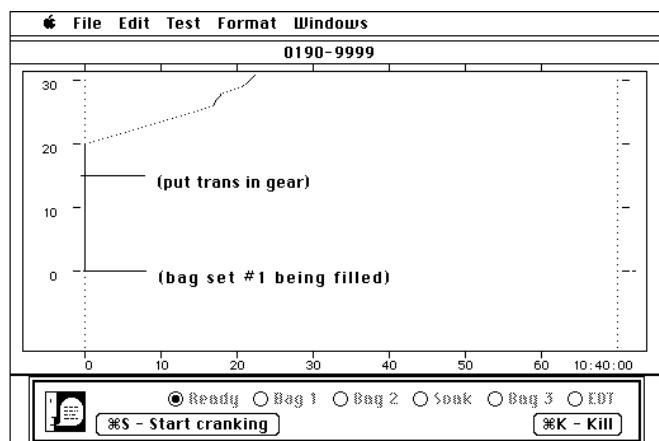

Figure 10
- 404 Before starting the engine, ensure that the “Ready” indicator on the bottom of the VDA screen is on. See Figure 10. If the test vehicle is in the Recall program, start the engine according to the technical directive instructions for this vehicle. If the test type is HFET, go to Step 439